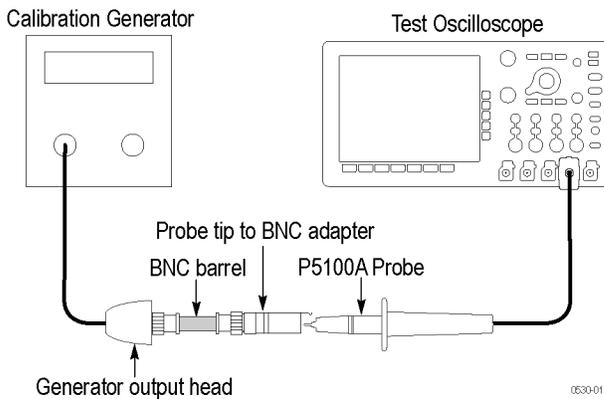

Figure 2: Setup for system accuracy check
1. Connect the probe as shown in the *System DC Attenuation Accuracy Check* setup. (See Figure 2 on page 3.)